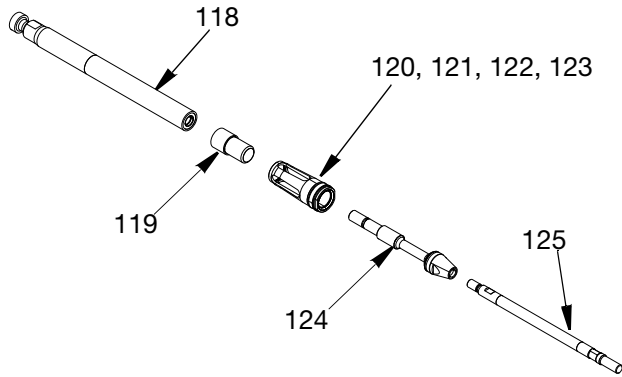

FIG. 12
- Place flats of the upper displacement rod (118) in a bench vice. Unscrew the lower shaft assembly (125) from the outlet check valve seat (124). Unscrew the outlet check valve seat from the upper displacement rod. Remove the piston guide and seal assembly (121, 122, 123, and 124) and the pump rod spacer (119).
- Inspect the outer surfaces of the upper displacement rod (118) and the lower shaft assembly (125) for wear, scoring or any other damage by holding them up to the light at an angle or running a finger across the surface. See FIG. 12.